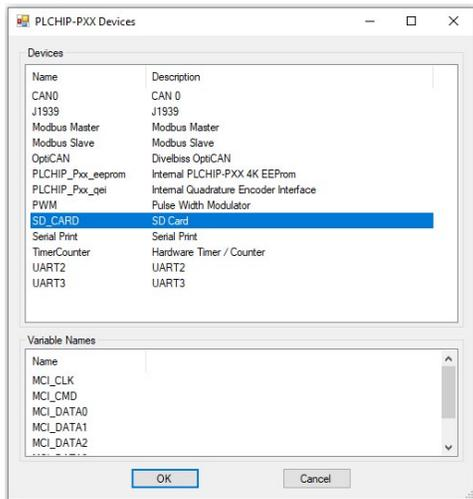

Figure 2.37 - Install CAN Port Device
4. Click / select **SD CARD** (highlight). Refer to Figure 2-37. Click **OK**.